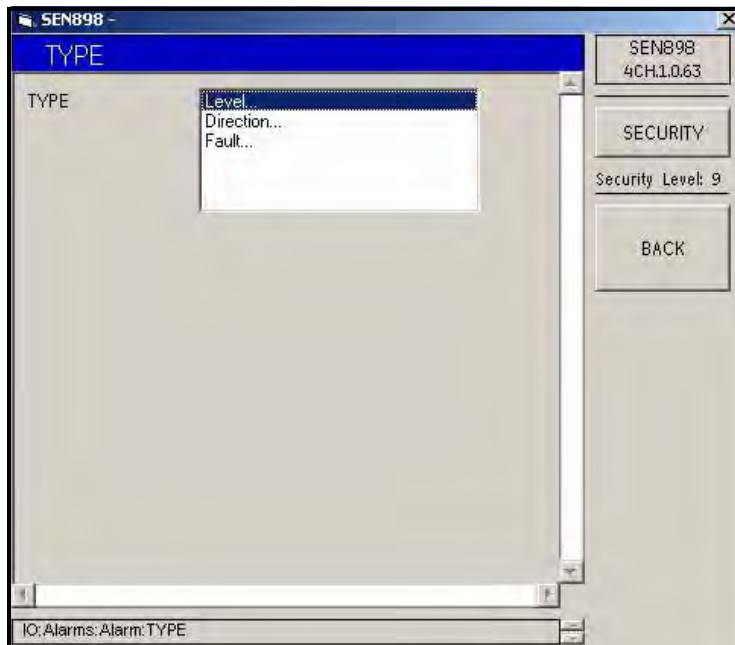

Figure 172: Alarm Type Options
16. To set up the alarm direction, from the Alarm Type Options menu (see Figure 172 on page 144), click twice on Direction... The following screen appears.